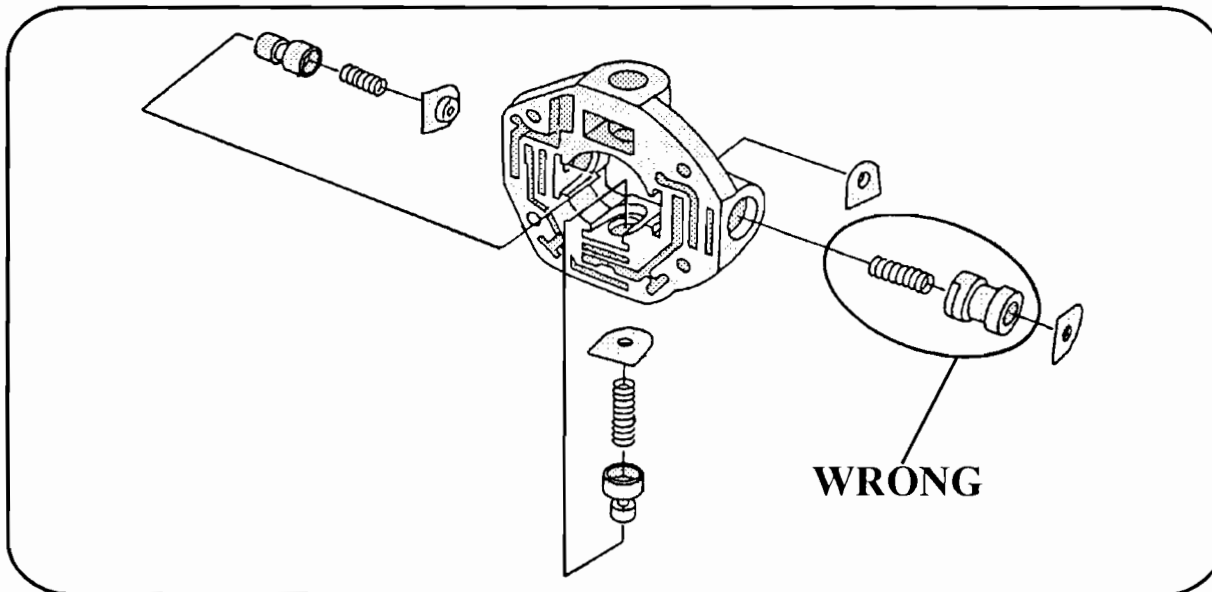

Figure 57
**CAUSE:** Installing the primary valve into the governor body incorrectly as shown in figure 57 will cause the vehicle to make a wrong gear start. The reason for the incorrect installation may be caused by the fact that the incorrect primary valve line-up shown in figure 57 is also shown incorrectly in various repair manuals.